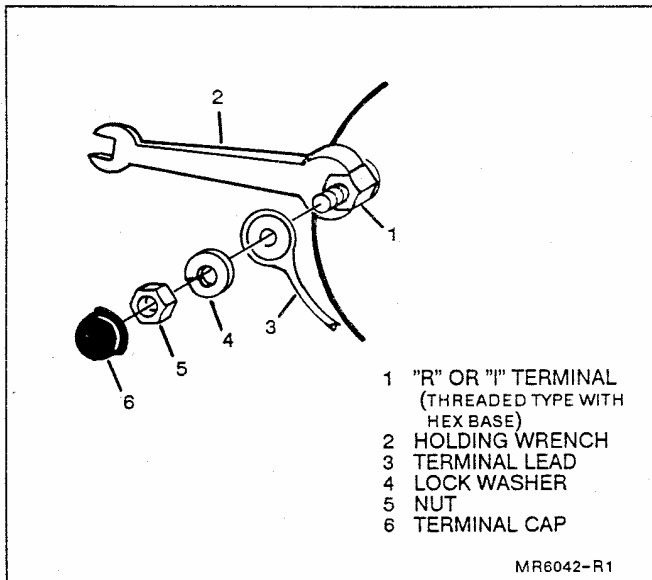

Figure 13. Threaded "I" and "R" Terminals
- 10. "I" and/or "R" (or "Relay") terminal connectors, if used. For threaded terminals with a hex base, hold hex portion of terminal as anti-turn while tightening nut (Fig. 13).